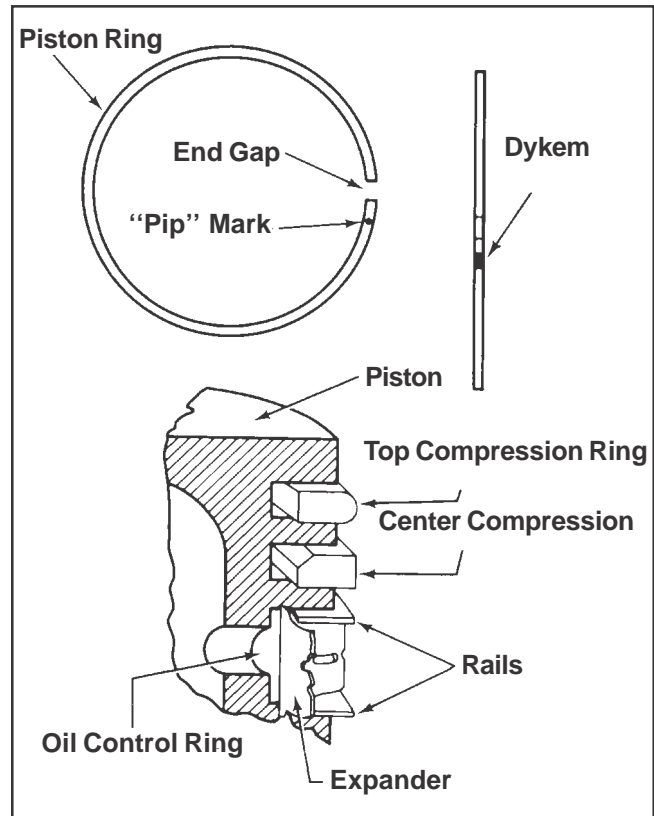

Figure 10-8. Piston Ring Installation.
**NOTE:** Rings must be installed correctly. Ring installation instructions are usually included with new rings sets. Follow instructions carefully. Use a piston ring expander to install rings. Install the bottom (oil control) ring first and the top compression ring last. Refer to Figure 10-8.